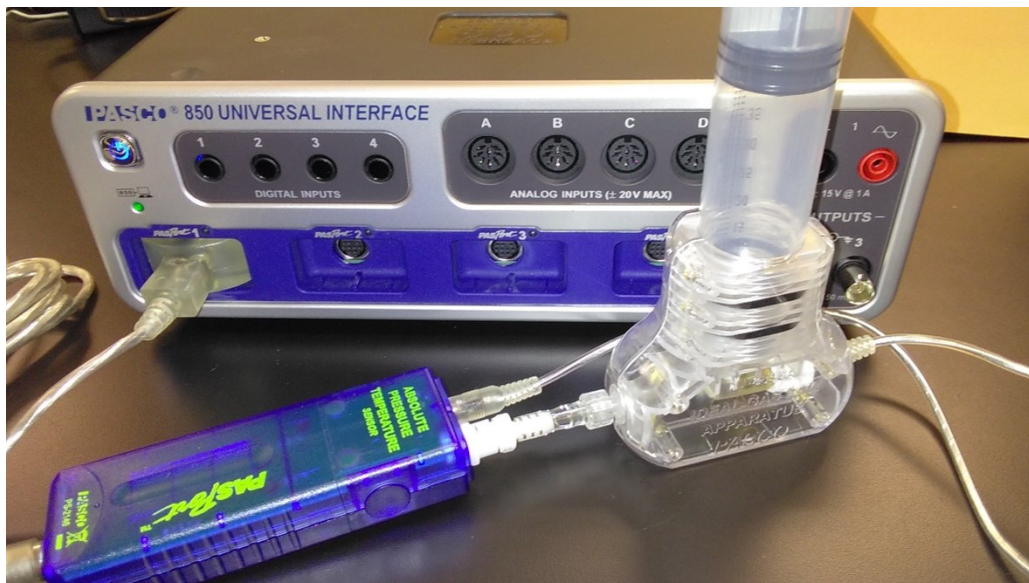

Fig. 2. (a) Pressure sensor and temperature sensor connected to syringe.
1. Set the plunger for a volume of 50 cc (mL). Connect the syringe to pressure sensor unit and the temperature sensor unit; then connect the pressure sensor unit to port A and the temperature sensor unit to port B on Capstone box, as shown in Fig. 2.